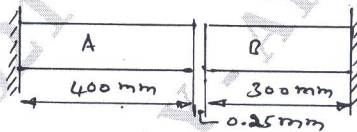

Fig.Q2(c)
- c. At room temperature the gap between two bars as shown in Fig.Q2(c) is 0.25 mm . What are the stresses induced in the bars, if temperature rise is 35°C . Given $A_A = 1000 \text{ mm}^2$, $A_B = 800 \text{ mm}^2$, $E_A = 2 \times 10^5 \text{ MPa}$, $E_B = 1 \times 10^5 \text{ MPa}$, $\alpha_A = 12 \times 10^{-6} \text{ per } ^\circ\text{C}$, $\alpha_B = 23 \times 10^{-6} \text{ per } ^\circ\text{C}$.